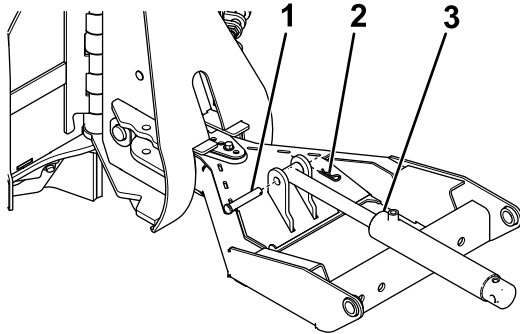

Figure 6
- Secure the rod end of the lift cylinder to the push-frame assembly using a clevis pin (5/8 inch) and hairpin cotter (Figure 6).